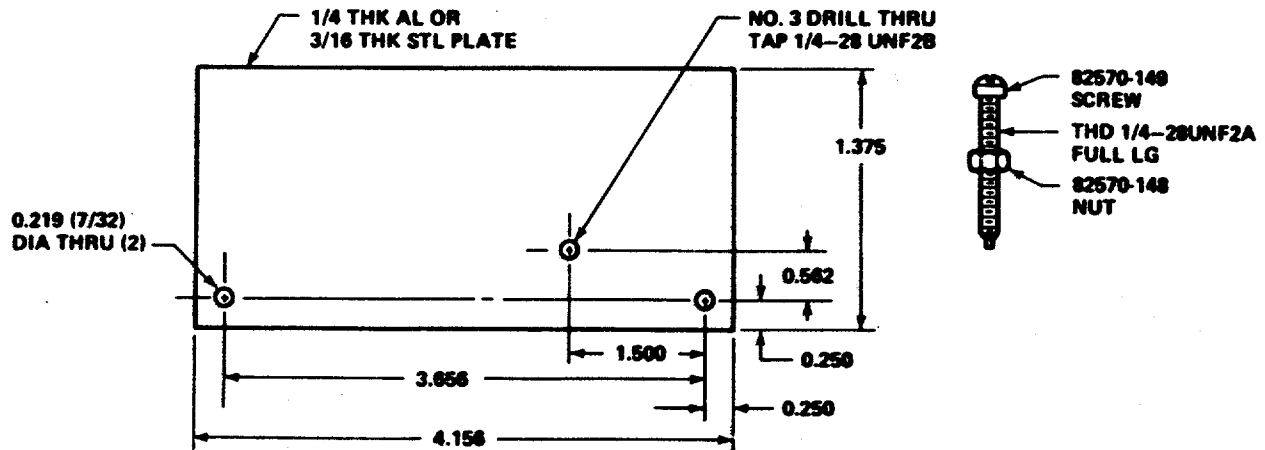

Figure 12-1. Speed Setting Adapter Plate
- b. Preliminary Steps. (See figures 12-1, 12-2, 12-3 and 12-4.)
shown in figure 12-1, to hold speed adjustment screw.